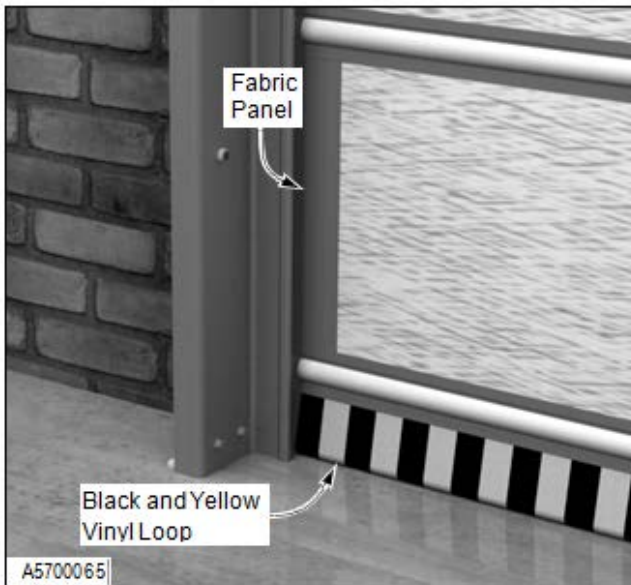

Figure 62
4. Ensure the panel is securely fastened to the bottom bar assembly. Tighten or replace loose or damaged mounting hardware as required. (See Figure 62)